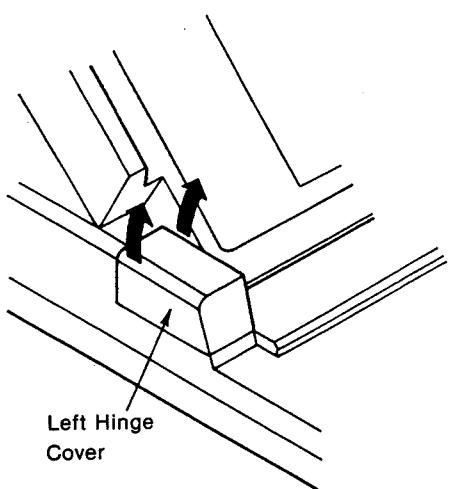

Figure 11
(16) Remove the left hinge cover by lifting up the rear end of the cover as shown in Figure 11.